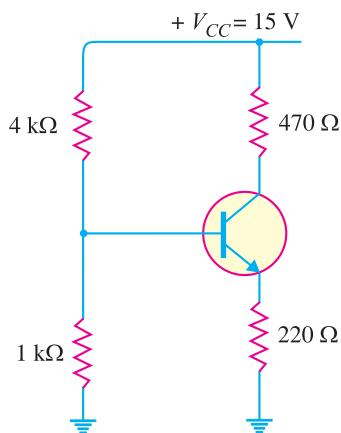

Fig. 9.50
7. In the transistor circuit shown in Fig. 9.50, find the operating point. Assume the transistor to be of silicon. $[I_C = 10.5mA, V_{CE} = 7.75V]$